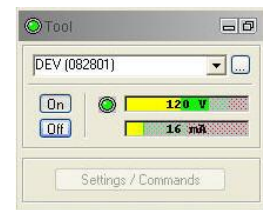

Figure 4-1 Tool panel
2. Select the relevant QL40 DEV-2G tool from the drop down list (Figure 4-1) in the software's **Tool** panel (if your tool is not listed check that your tool configuration file is stored in the designated folder on your computer).